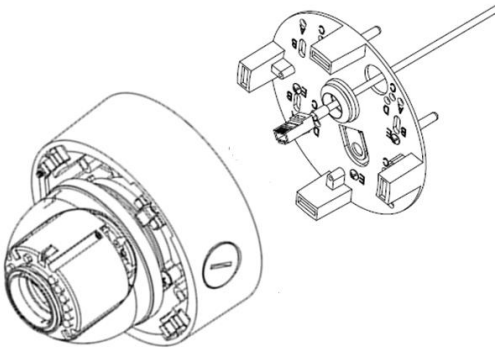

Figure 4
7. Align the hole on MegaDome® 4K camera with the hole on mounting plate, and install the grommet on camera housing as shown in Figure 4.